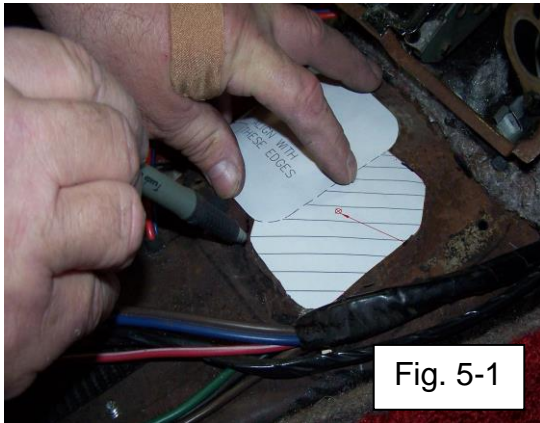

Fig. 5-1
- c. Position shifter opening cutting template TMG-03102 or TMG-03202 on topside of tunnel with the shift tower opening centered about the locating hole. See Fig. 5-1. Mark and cut opening in tunnel. Remove factory steel backing plate if so equipped.
- c. Position cutting template TMG-03102 or TMG-03202 on topside of tunnel to verify the shifter opening cut required for the T56 Magnum is centered about the locating hole and mark around cross hatched area for new hole cut. See Fig. 5-1. Mark and cut opening in tunnel.